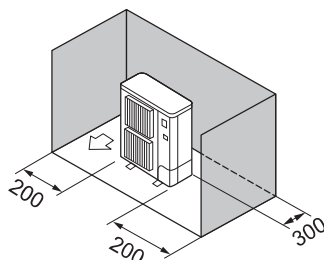

Fig. 2-9
- ③ Obstacles at rear and sides only (Fig. 2-9)